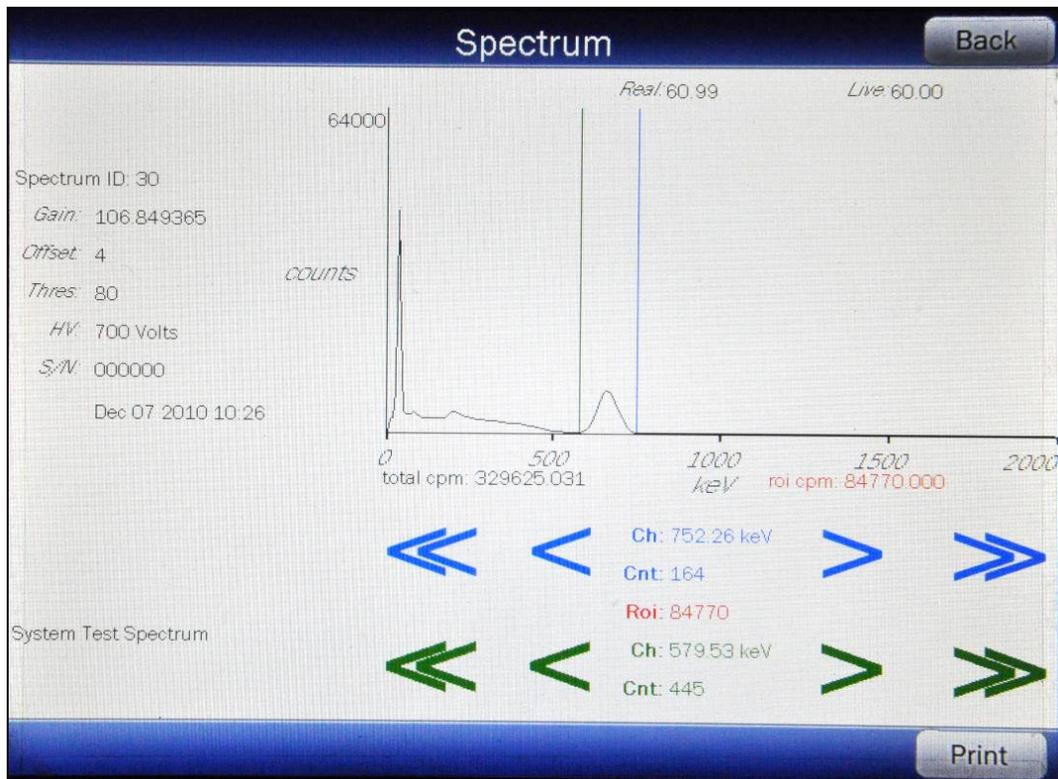

Figure 10-8 Spectrum Screen
To view the spectrum for a specific measurement (**Background (B)**, **Standard (S)** or **Aliquot (U)**), touch the blue highlighted count rate box beside the desired measurement. The Spectrum Screen (similar to Figure 10-8 Spectrum Screen) will appear.